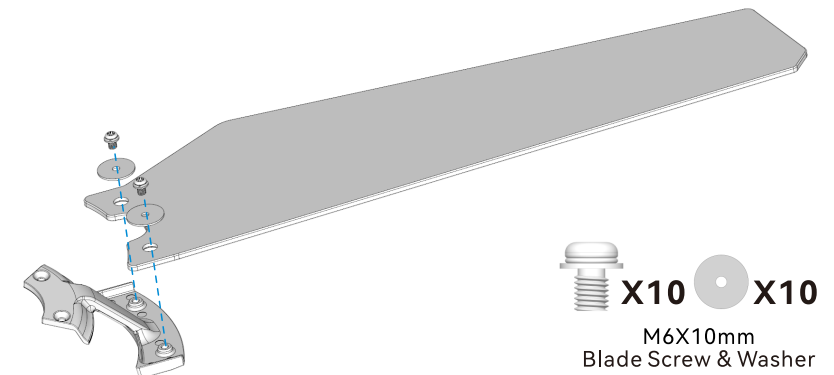

Fig. 1.1
1.1 Locate the 10 blade attachment screws and washers included in the hardware pack. Use these screws and washers to firmly attach each blade to the blade bracket, as demonstrated in Fig. 1.1.